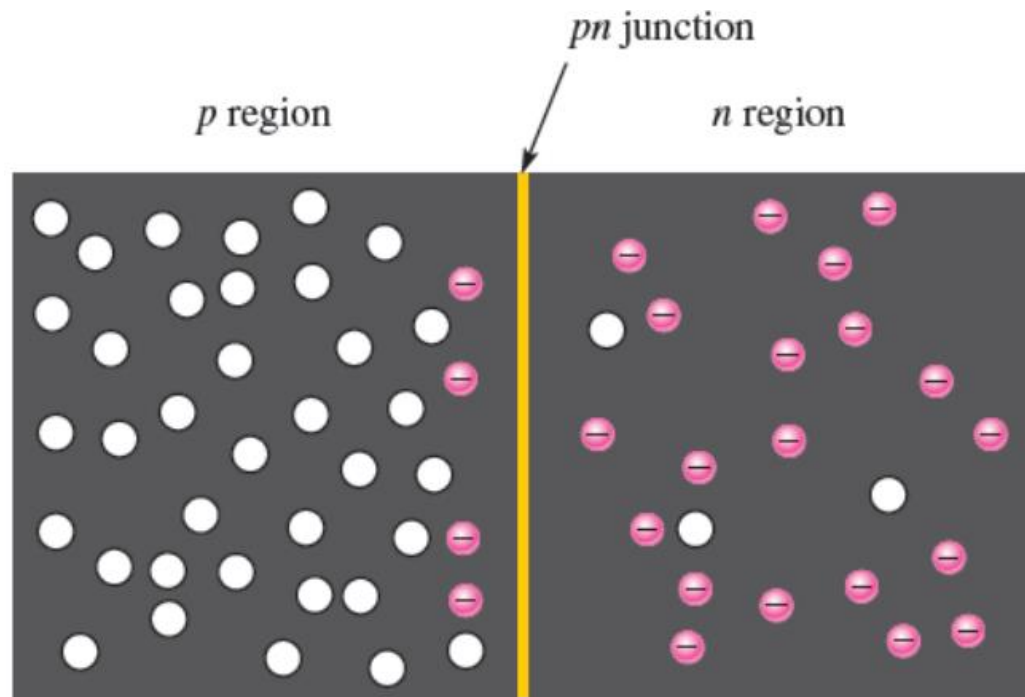

Fig. 2. PN Junction
- If a piece of intrinsic silicon is doped so that part is n-type and the other part is p-type, a PN junction forms at the boundary between the two regions and a diode is created, as indicated in Fig. 2.
- A diode consists of an n region and a p region separated by a pn junction, as illustrated in Fig. 2.